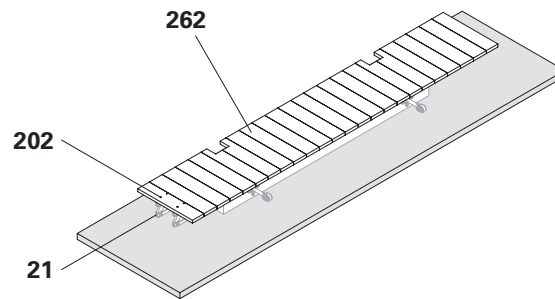

Fig. B9.05
5. Saw the planking (262) to length.
6. Place the planking (262) on the Formwork Girders GT 24 (21), align them and screw them tight with 2x Torx 6 x 80 (202) for each girder.
7. Saw recesses in the platform decking for the Platform Post 5900 IPBL 240 ACS. (Fig. B9.05 + B9.06)